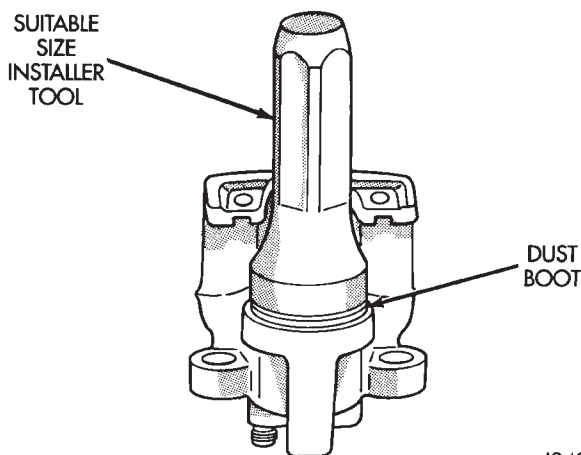

Fig. 80 Seating Caliper Piston Dust Boot
- (1) Lubricate caliper piston bore, new piston seal and piston with clean brake fluid.
- (2) Lubricate caliper bushings and interior of bushing boots with silicone grease.
- (3) Install new piston seal into seal groove. Press seal into place with fingertips.
- (4) Install new dust boot on caliper piston and seat boot in piston groove.
- (5) Press piston into caliper bore by hand, use a turn and push motion to work piston into the caliper bore.
- (6) Press caliper piston to bottom of bore.
- (7) Seat dust boot in caliper either by hand, or with a suitable size installer tool (Fig. 80).